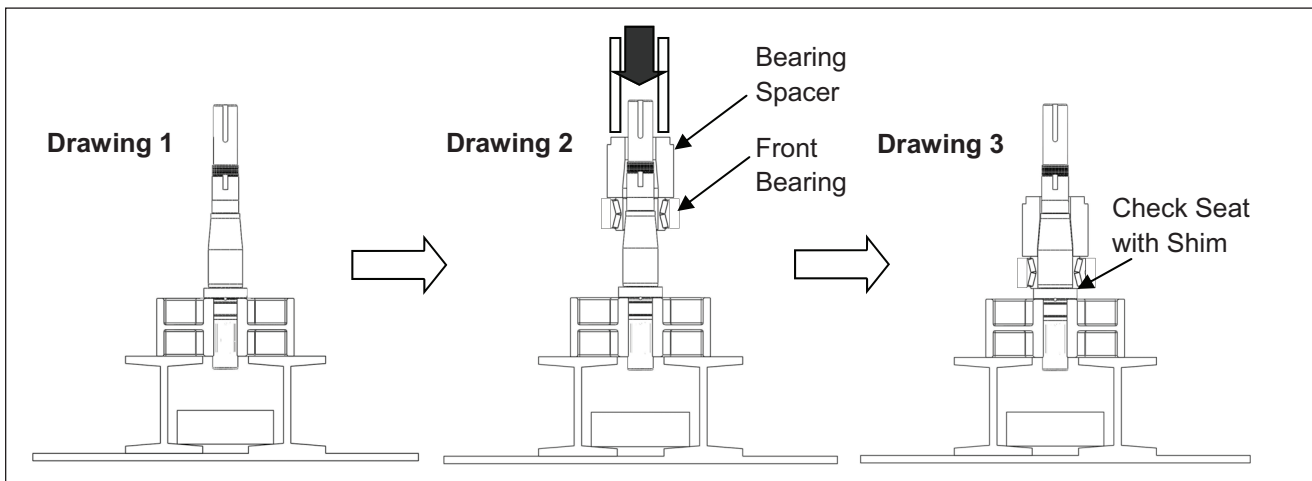

Figure 49. Pressing Front Bearing onto Shaft
1. Clean all reusable parts prior to reassembly. Apply a light coat of lubricant on the shaft area where the front bearing will sit. Position the shaft upright in the press with the splines facing down (Figure 49, Drawing 1). Open the new front bearing assembly and be sure not to interchange any parts. All bearings are manufactured as sets and assembled to have a precise overall length. Place the front bearing over the shaft along with the bearing spacer
(Figure 49, Drawing 2). Make sure the bearing and spacer are aligned before pressing them on. Reference Table 5 for the required force (in tons) needed to press the bearings on to the shafts. Using a sleeve that rests on the bearing spacer and rides over the shaft, press the bearing on until it seats against the shaft shoulder. A shim can be used to ensure that the bearing is fully rested on the shaft shoulder (Figure 49, Drawing 3).